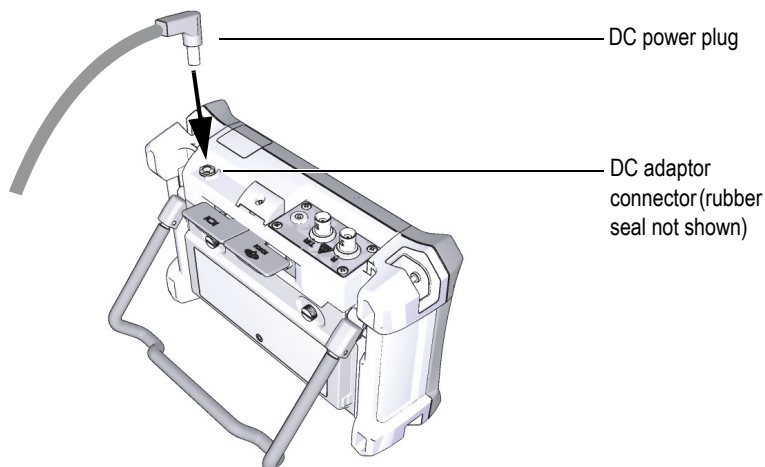

Figure 1-9 Connecting the DC power plug
3. Connect the DC output power cable from the AC charger/adaptor to the adaptor connector (see Figure 1-9 on page 29).